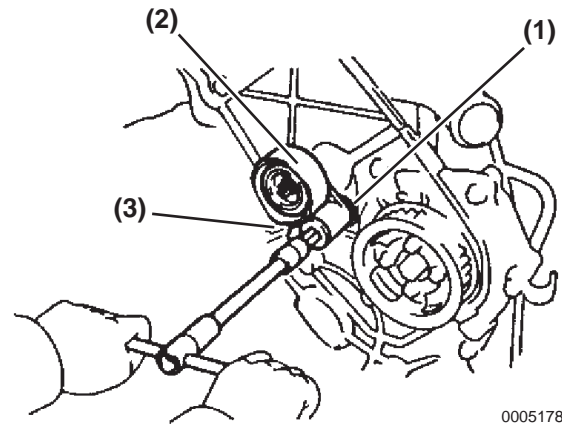

Figure 5-179
11. Install the plate washer (**Figure 5-179, (1)**) and idler pulley (**Figure 5-179, (2)**) by the pivot bolt, using an 8 mm allen / hex wrench (**Figure 5-179, (3)**).